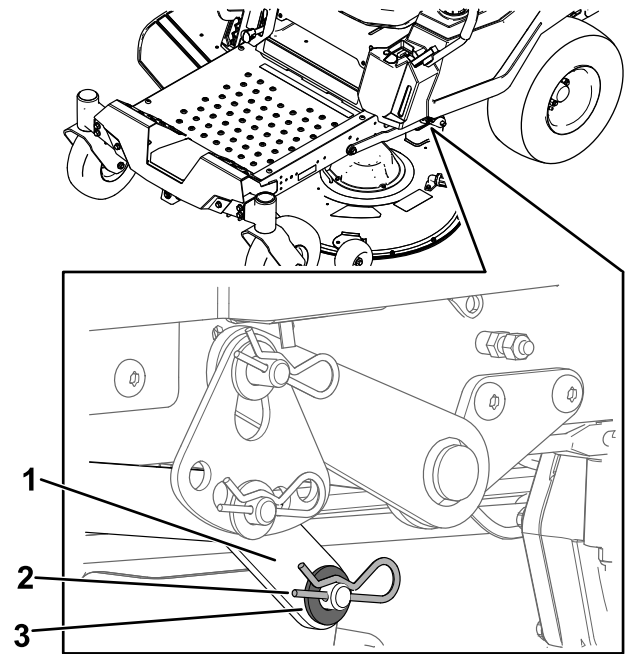

Figure 75
- On 1 side of the machine, remove the washer and hairpin cotter from the deck pin (Figure 75).
- Remove the lift arm from the deck pin (Figure 75).
- On 1 side of the machine, lift the rear of the mower deck and install the lift arm to the deck pin (Figure 75).
- Install the lift arm using the washer and hairpin cotter (Figure 75).